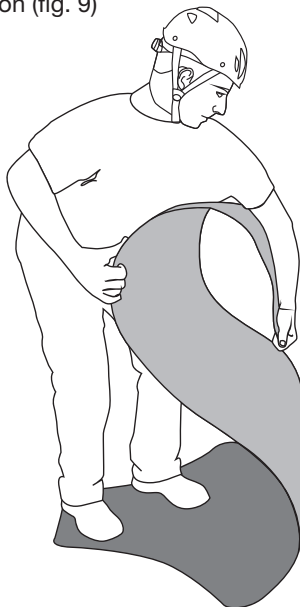

Fig. 9
- a) Remove the “**ROLLY**” rescue sheet from the transport bag (O) and remove the ratchet sling (N)
- b) Distend the support surface (A) and flatten it, rolling the ends over in the opposite direction and folding the central section (fig. 9)